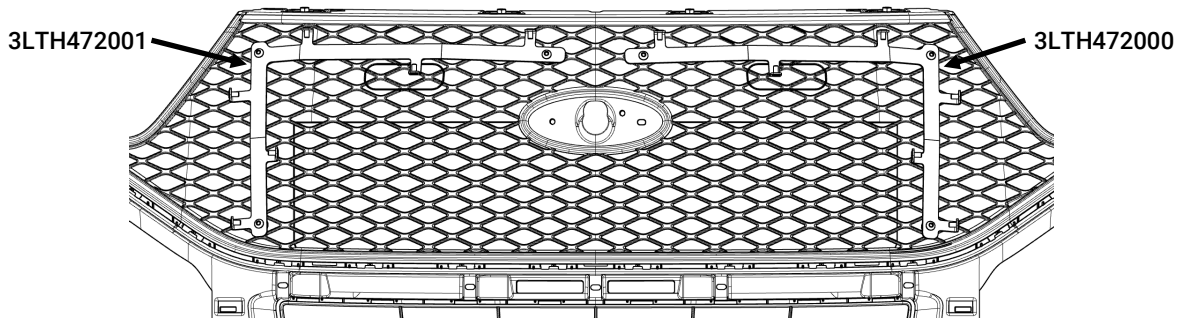

Figure 2
- A. Align the (3) holes in the Passenger Command Grille® Bracket [3LTH472001] with the (3) well nuts on the left (when looking at the vehicle) side of the OEM grille.
- C. Once all (3) button head fasteners in the Passenger Bracket are started, tighten using a 5/32" hex key.
- D. Repeat Steps A. - C. using the Driver Command Grille® Bracket [3LTH472000] and the remaining (3) button head fasteners [3X283]. Figure 2 shows the OEM grille with the brackets installed.